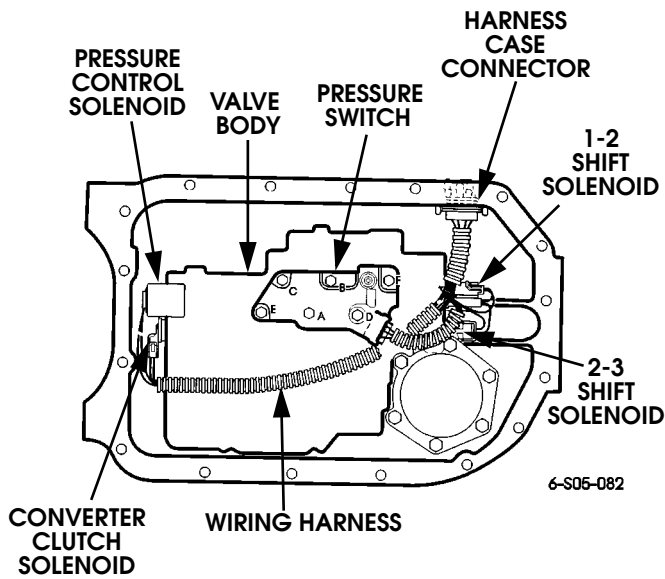
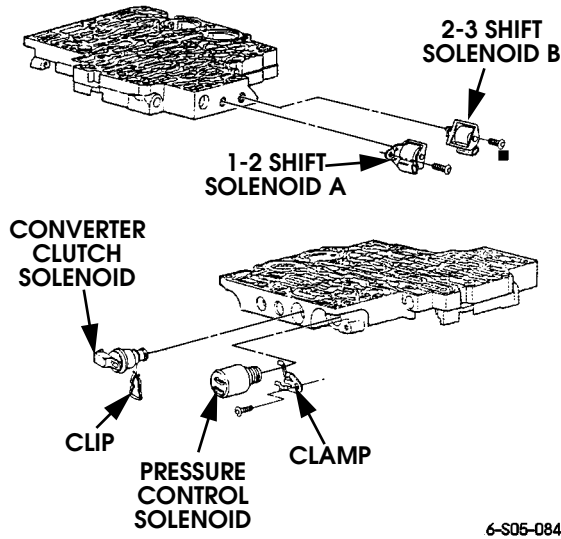

Figure 5-32: Valve Body Switch and Solenoid Locations
Figure 5-34: Solenoid Identification
The following electrical components can be replaced once the oil pan and/or valve body are removed from the transmission (Figure 5-32):
7. Remove necessary solenoid from valve body. Refer to Figure 5-32 or Figure 5-34 for solenoid locations.